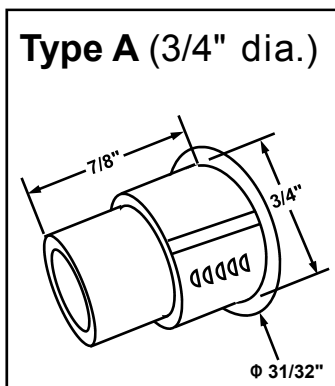

FIG. 12A: FIND THE "DOOR CONTACT MAGNET" PROVIDED, EITHER TYPE A ($\frac{3}{4}$ " DIAMETER) OR TYPE B ($\frac{3}{8}$ " DIAMETER)
- 12A. Find the **Door Contact Magnet** in the factory packaging. The type provided will be either **Type A** or **Type B** (see images in Fig. 12A below). Also note its dimensions in Fig. 12A.